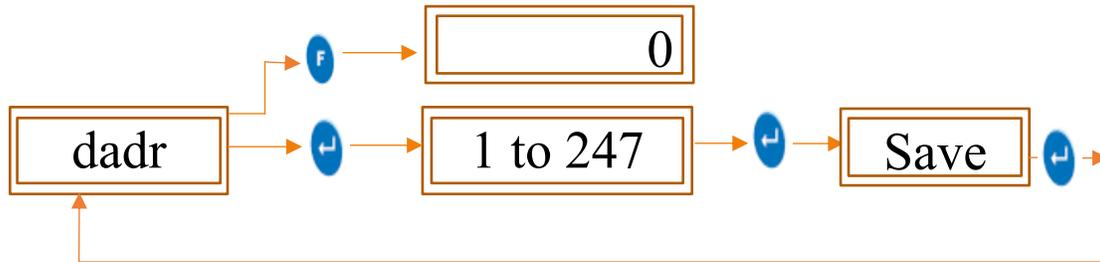

Figure 29 DADR (Device address)
- To set the Device address, follow the procedure shown in figure 29.